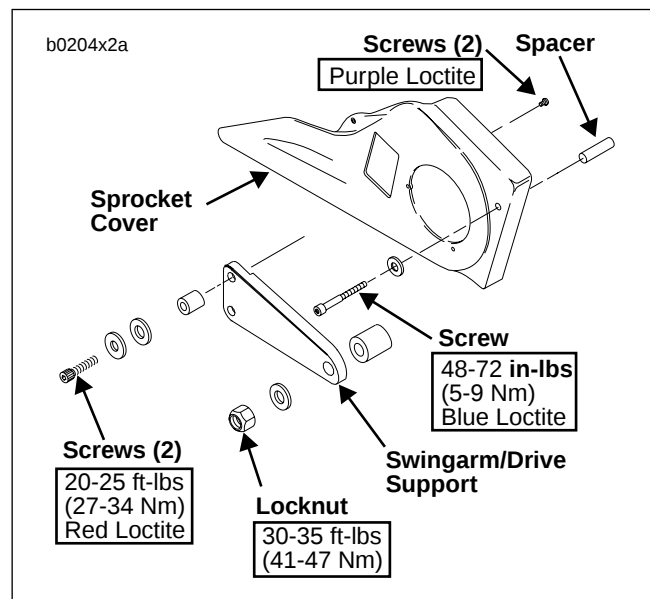

Figure 2-69. Sprocket Cover
4. See Figure 2-69. On the right side of the motorcycle, remove the front sprocket cover assembly.
5. See Figure 2-69. Remove two screws that attach sprocket cover to the backside of the swingarm/drive support. Retain screws.
17. See Figure 2-69. Apply LOCTITE THREADLOCKER 243 (Blue) to threads of two sprocket cover to swingarm/drive support screws and install new sprocket cover to swingarm/drive support.
18. See Figure 2-69. Install sprocket cover assembly with original hardware.